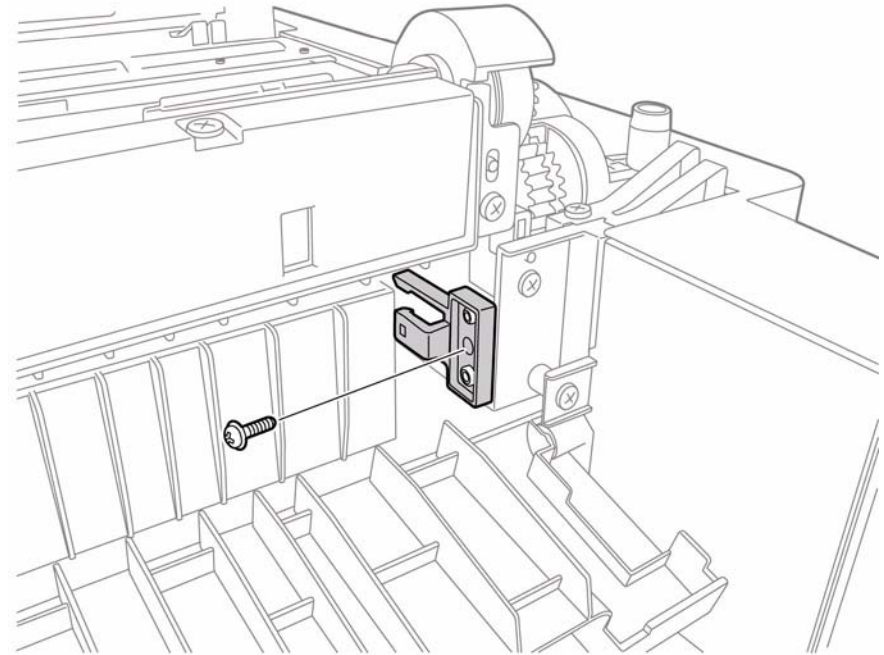

Figure 1 Remove the Tray Stopper
3. Refer to Figure 1 to locate and remove 1 screw (silver, tapping, 8mm) that secures the Tray Stopper to the chassis.